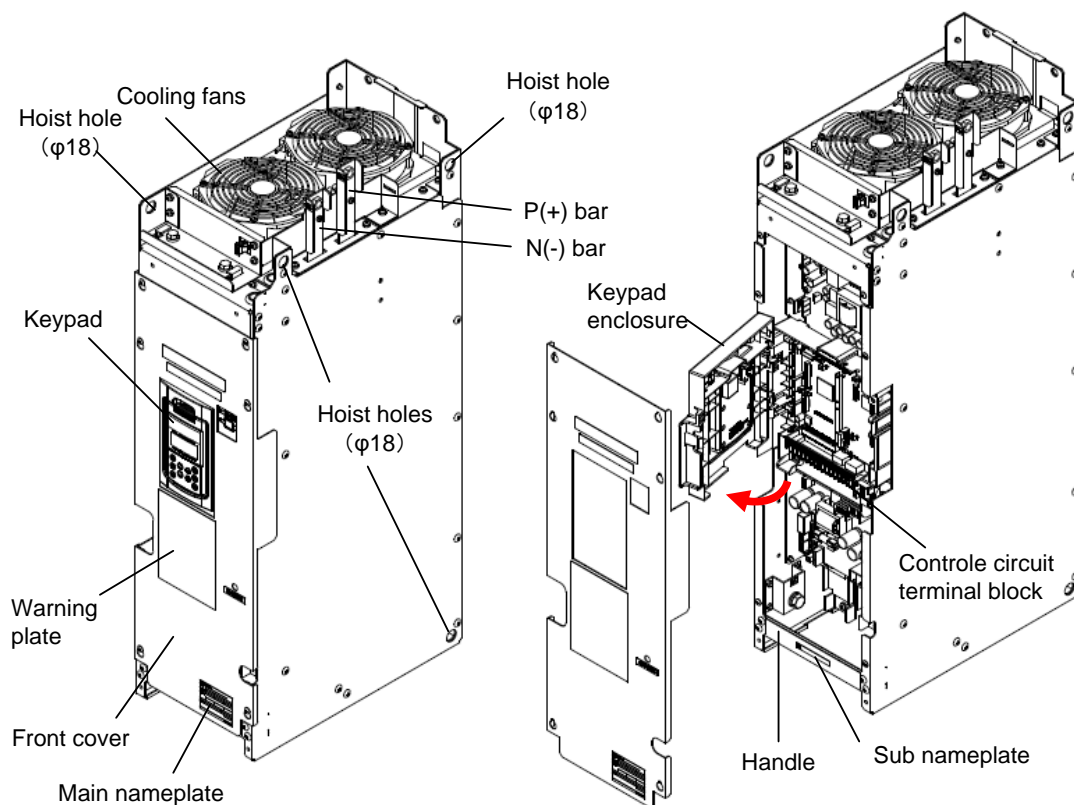

Figure 1.2-1 Rank 2 (90 to 110 kW)
- (2) The inverter has not been damaged during transportation—there should be no dents or parts missing.
- (3) The inverter is the type you ordered. You can check the type and specifications on the main and sub nameplates. (The main and sub nameplates are attached to the inverter as shown in Figures 1.2-1 through 1.2-4.)